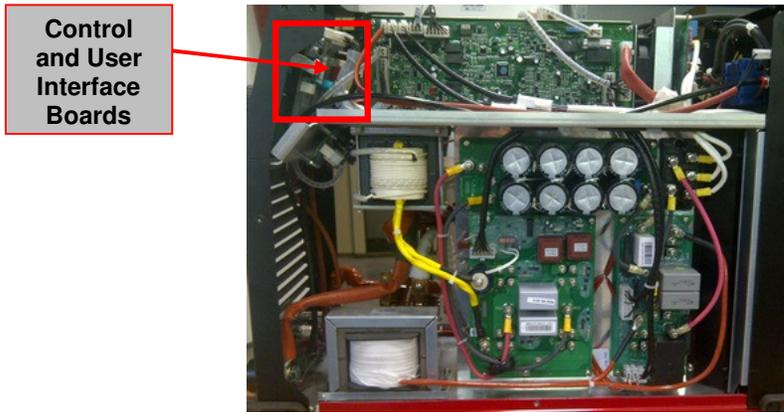

Figure 20 – W05X1462 and W05X1529 Control and User Interface boards location
3. Locate the Control and UI boards on the upper side of the machine front panel. See **Figure 20**.